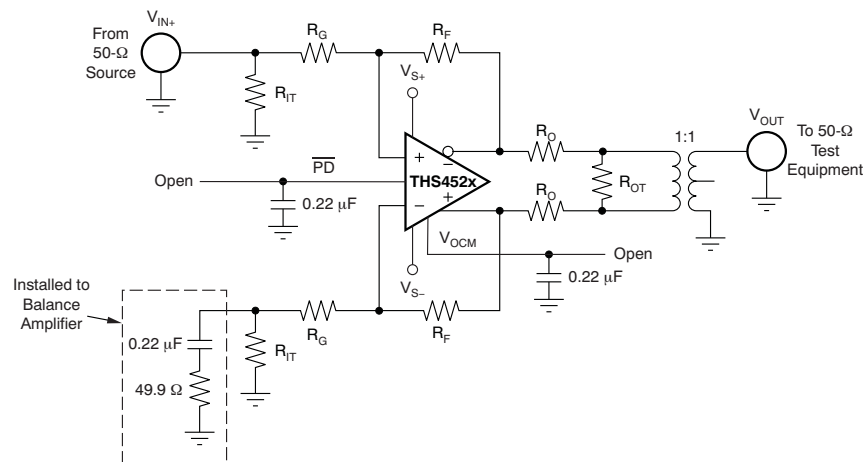

Figure 55. Distortion Test Circuit
As a result of the voltage divider on the output formed by the load component values, the amplifier output is attenuated. The **Atten** column in Table 5 shows the attenuation expected from the resistor divider. When using a transformer at the output (as shown in Figure 55), the signal sees slightly more loss because of transformer and line loss; these numbers are approximate.
**Table 5. Load Component Values For 1:1 Differential To Single-Ended Output Transformer (See Figure 55)**
The circuit shown in Figure 55 is used to measure harmonic and intermodulation distortion of the amplifier.